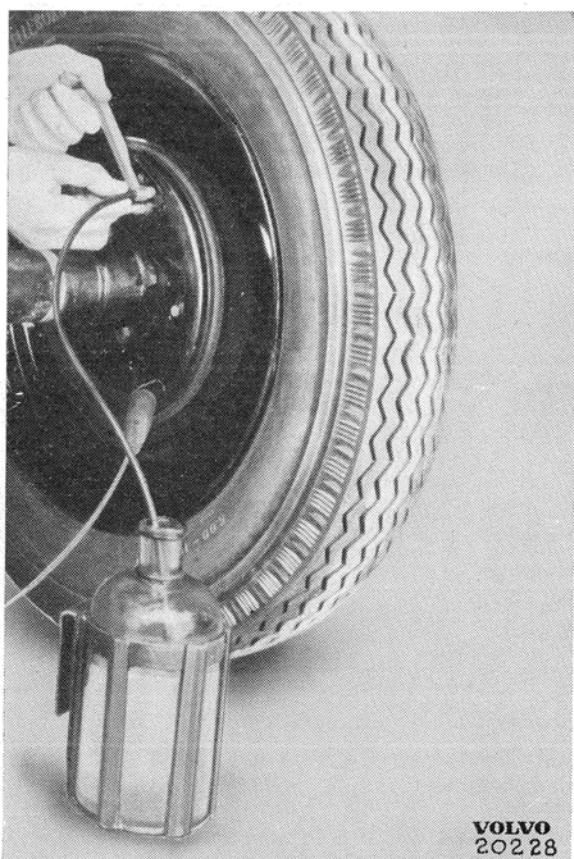

Fig. 30. Bleeding.
3. Fit wrench SVO 1431 with hose on bleeding nipple and let the other end of the hose hang down in the fluid in a suitable collecting vessel, see Fig. 30.